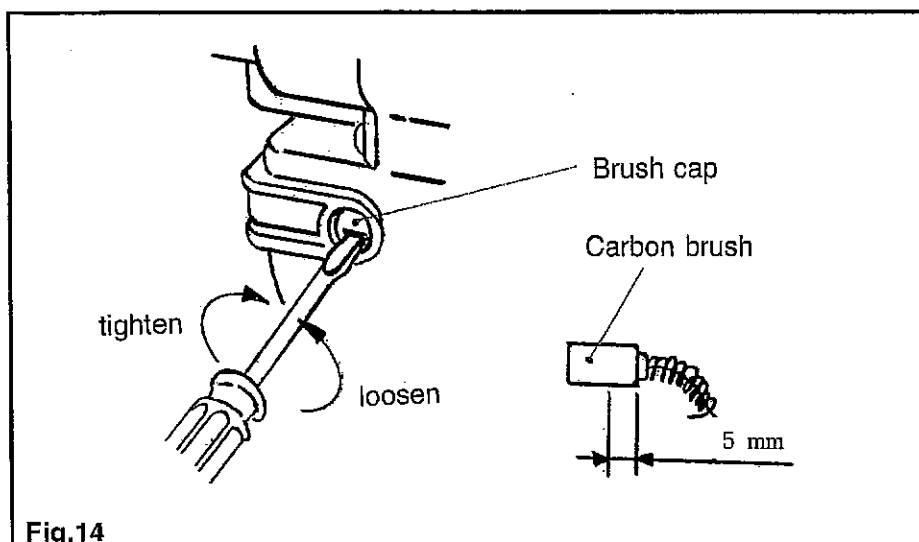

Fig.14
- (1) Be sure to press the unit straight against the work. Otherwise, the screw head may be damaged, the bit may wear out earlier, or the screw may be poorly tightened.
- (2) Keep pressing the unit long enough. If interrupted halfway, the screw may end up loose.
- (3) Do not slow down the unit when pressing. Return it quickly after the screw gets into position.
19. Preventive maintenance (Fig. 14)
(4) Checking the carbon brushes (Fig. 14)
(5) Replacing the carbon brushes (Fig. 14)